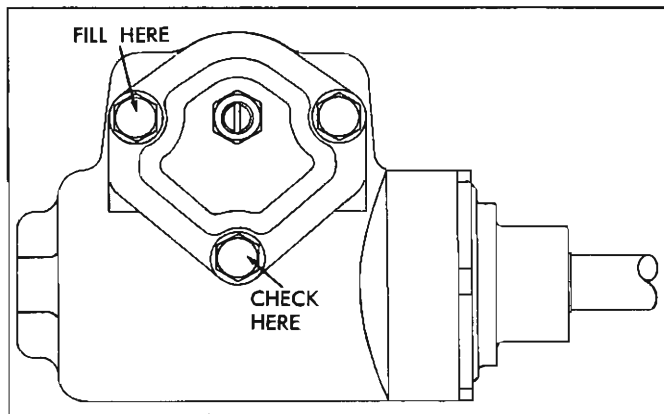

Fig. 1—Side Cover Attaching Bolts—Chevy II Shown
1. Remove lower and outboard cover retaining screws (fig. 1).